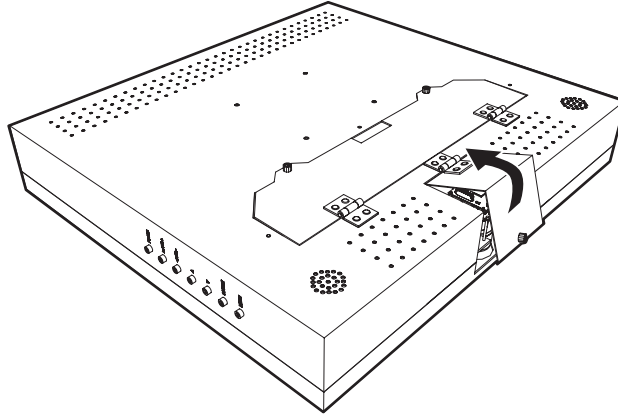

Figure 12. Access Door
2. Use the thumb screw on the bottom of the monitor to open the access door. Refer to Figure 12.